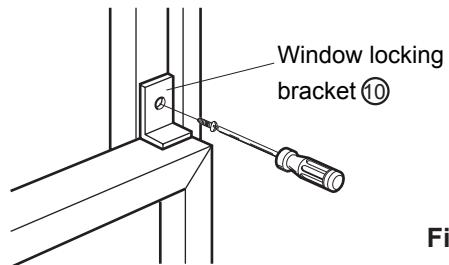

Fig. 9
12. Attach the Window Locking Bracket ⑩ with a Type C screw ③. ( Fig. 9)